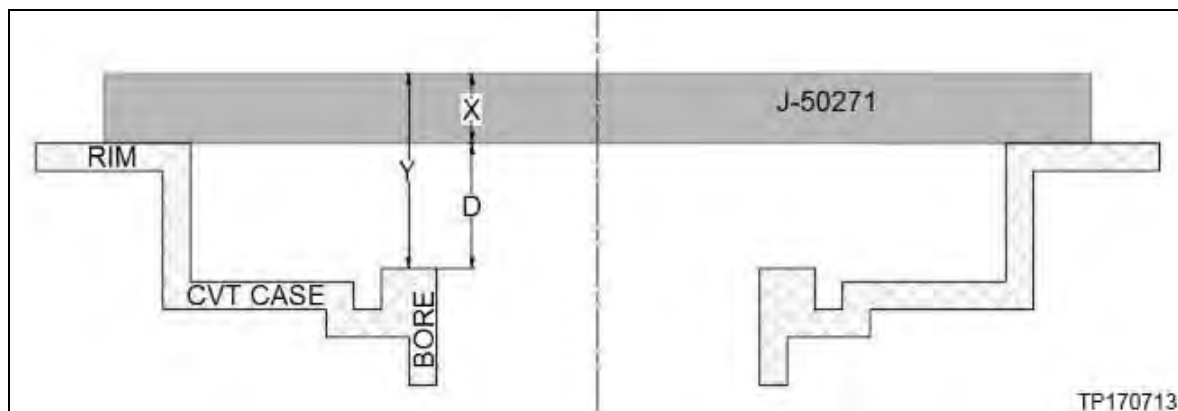

Figure 5M
NOTE: Only if a Gauge Block (J-50271) is not available, measurement “X” (Figure 5M, page 59) will need to be determined for the measuring bar being used. This can be done either with a set of calipers or with Digital Depth Gauge (J-50272).
8. Measure the average distance (Y) shown in Figure 5M as follows: